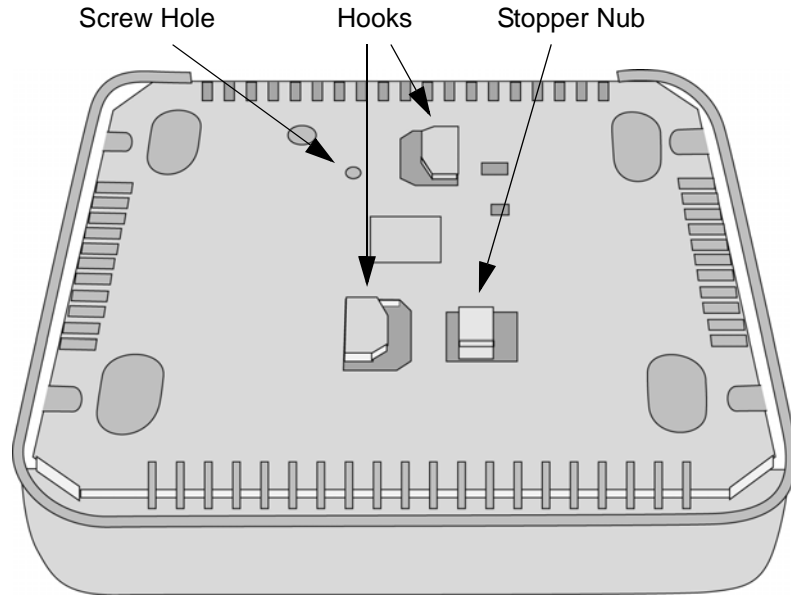

Figure 10. Bottom of Access Point
2. Place the bracket against the bottom of the access point and use the bracket to push downward on the stopper nub. See Figure 10 on page 40).